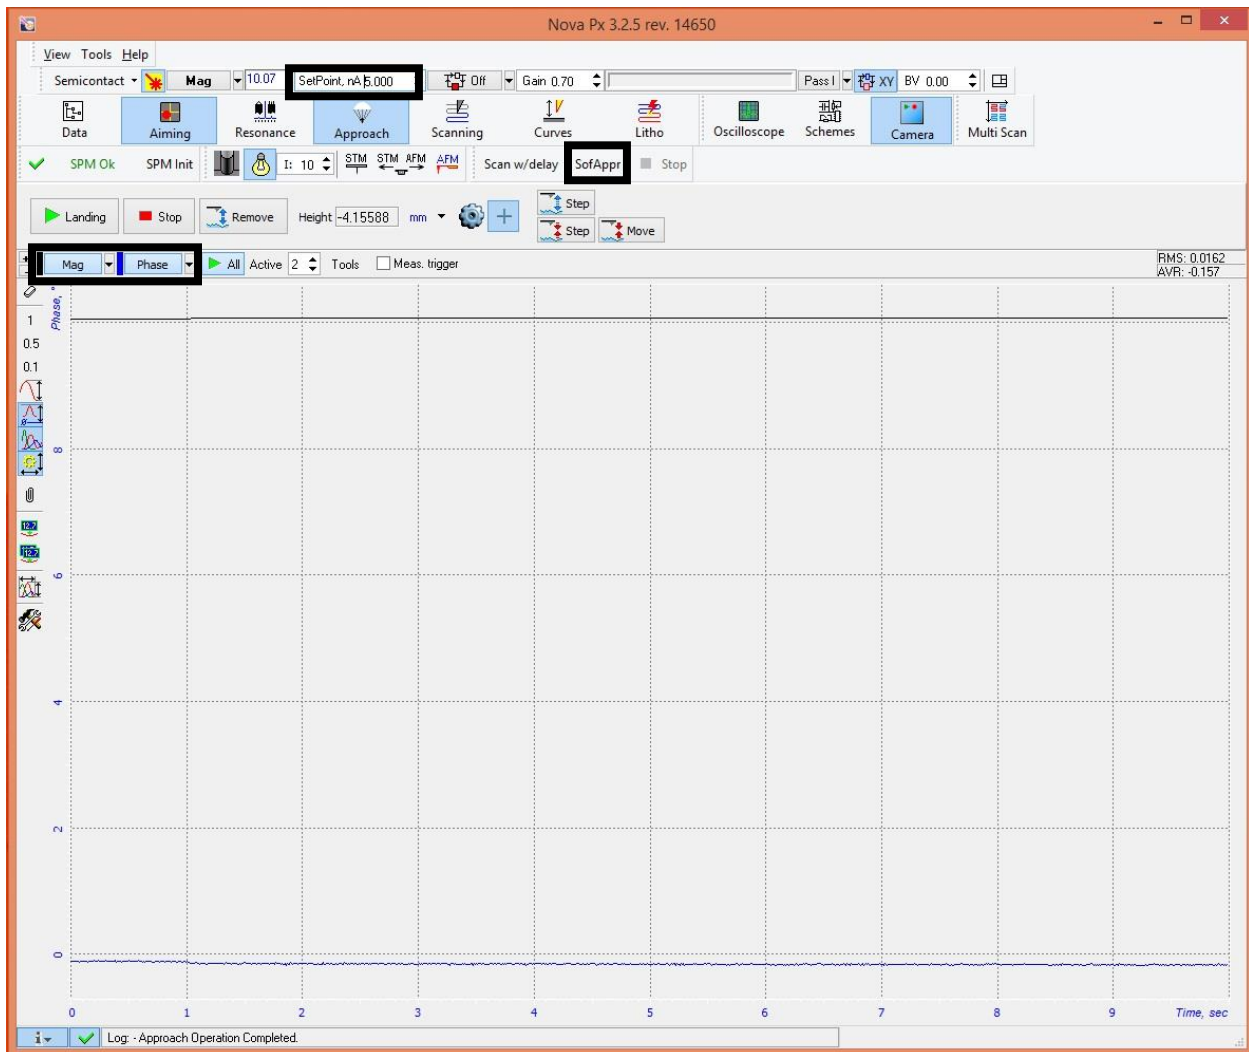

Figure 15: Approach main menu
- Click the “Mag” and “Phase” button in the top left of the approach menu (Figure 15).
- Click the “SofAppr” button in the top center of the menu (Figure 15).
- The soft approach script doesn't just land the probe on the sample but it also establishes a set point. When the probe gets close to landing the set point values should fluctuate (Figure 15).